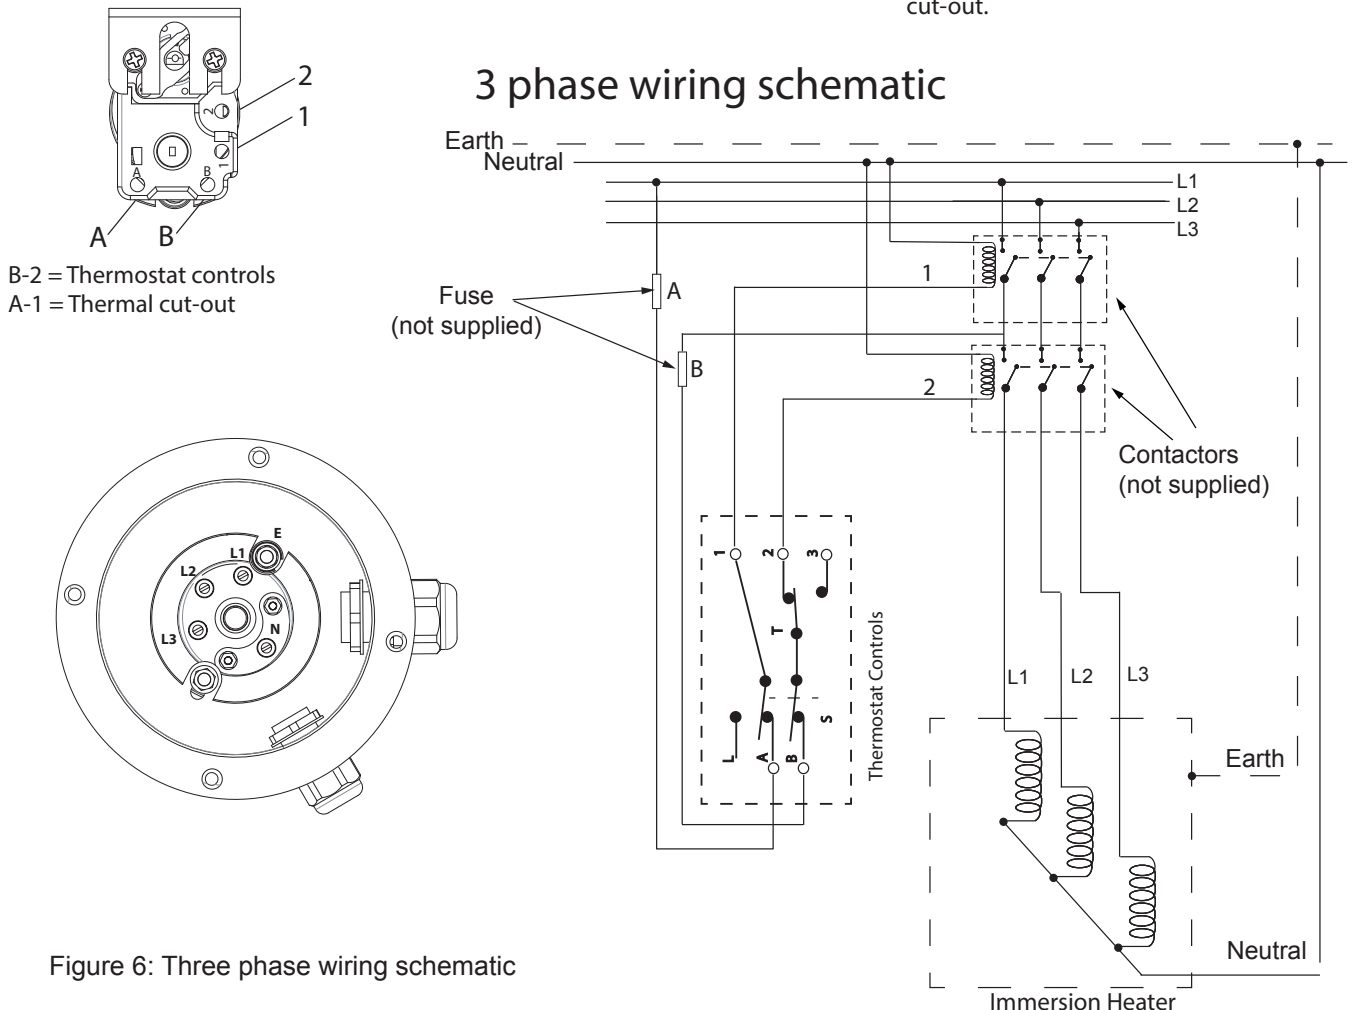

Figure 6: Three phase wiring schematic
- Wire up immersion as per figures 6, page 11. If three phase wiring chosen remove "Live" side buzz bar and fit extra posts (supplied) to L1, L2 & L3. (outer case and bracket removed for clarity)
Replace thermostatic controls taking care when inserting the capillary bulbs into stat pocket and wire up as per figure 6 or 7, page 9 .